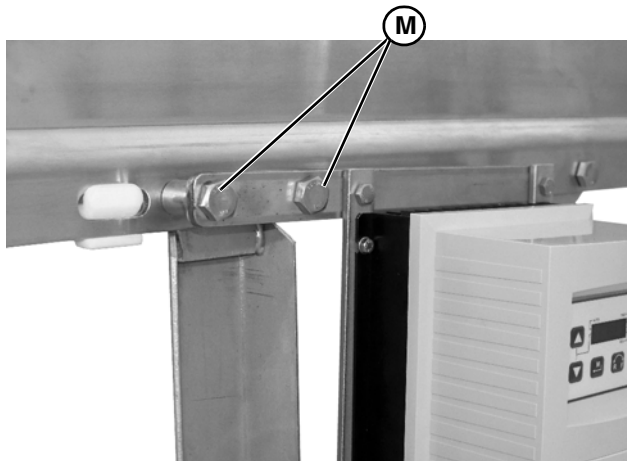

Figure 9
3. Install assembly to conveyor at stand location. Remove stand screws and replace with new screws (Figure 9, item M).